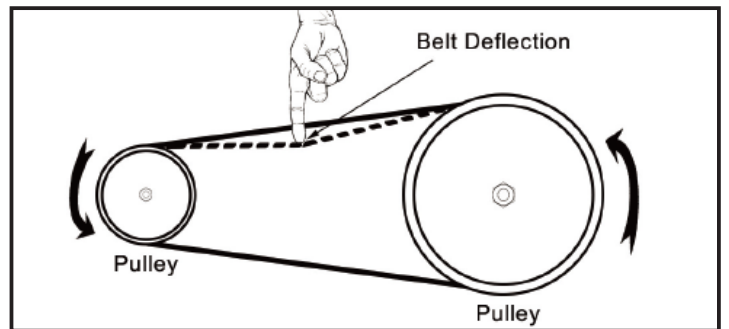

FIG.7.3.2
- Allow the weight of the motor to determine the proper belt tension. The drive belt should be set between 3/8" and 1/2" deflection when side pressure is applied. Fig. 7.3.2.